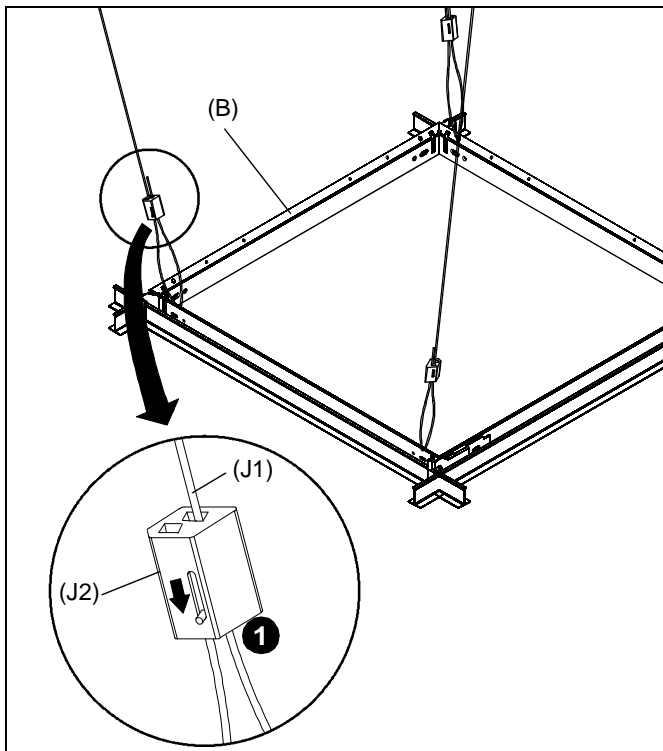

Figure 8
1. Thread each cable (J1) completely through cable lock (J2), corresponding hole in corner of SL220 frame (B), and completely through opposite side of cable lock (J2) (See Figure 8).
2. Adjust cable tension until SL220 frame (B) is supported *entirely* and *evenly* by all four support cables, but not so tight as to distort ceiling tile framework.